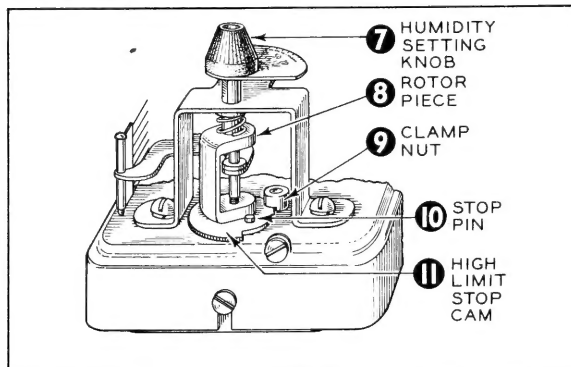

Fig. 4—Adjustable stop for maximum setting.
The stop is factory set at maximum, but may be changed as follows: Loosen the clamp nut (9-Fig. 4). Turn the setting knob (7) until the pointer is opposite the maximum desired reading on the scale. Then rotate the cam (11) until the pin (10) rests against the rotor piece (8). Tighten the clamp nut (9) to hold the stop in place.